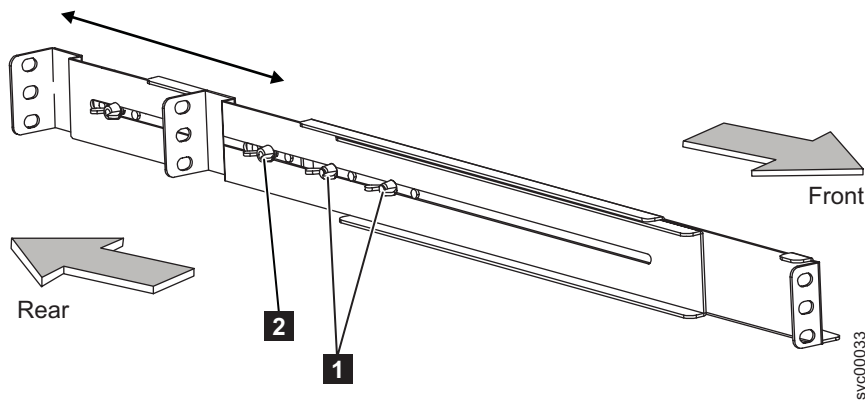

Figure 316. Adjusting the rail depth on the 2145 UPS-1U
4. Loosen the assembly wing nuts (**1** in Figure 316) on both rail assemblies and adjust the rail size to the depth of your rack. After you adjust the depth, tighten the assembly wing nuts as much as possible while still allowing some movement.